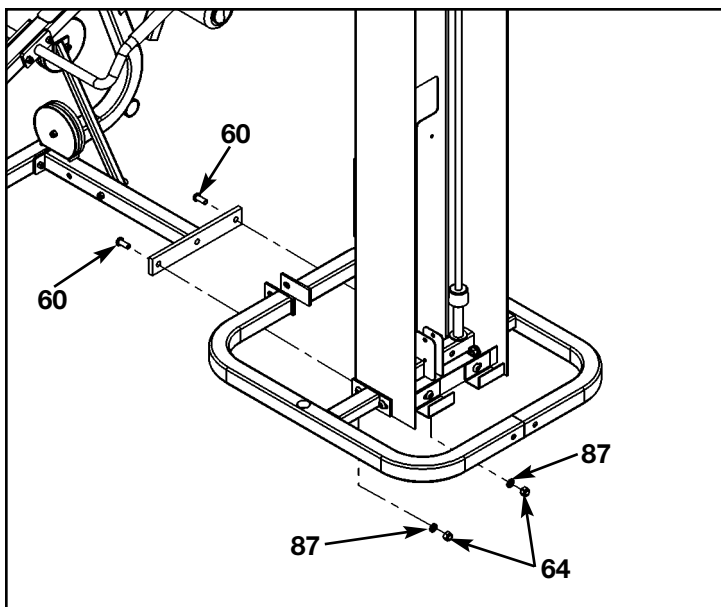

Figure 12A
- D.** Install the Leg Extension/Leg Curl Assembly to the column. See Figure 12 for Modular/Tandem configurations and Figures 12A and 12B for Free Standing configuration.